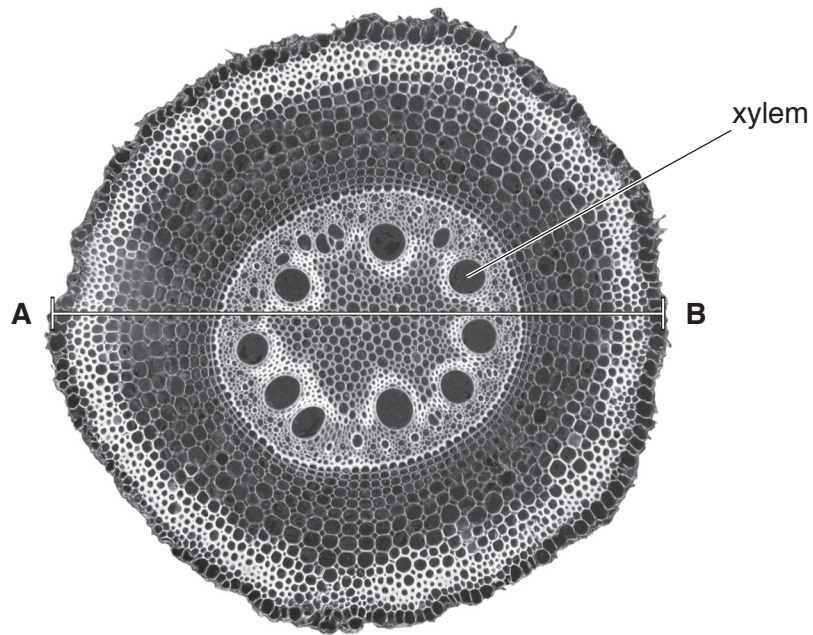
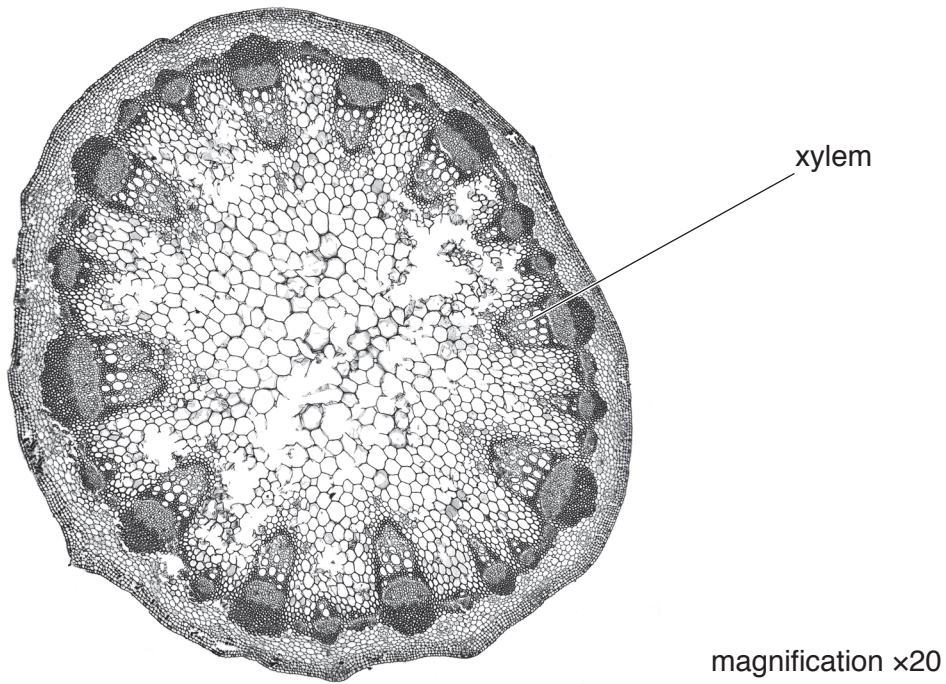

Fig. 2.2
Fig. 2.3
(c) Fig. 2.2 is a photomicrograph of a cross-section of a root.
- (i) Make a large drawing of the cross-section of the root in Fig. 2.2 to show the different areas of the root.
(ii) Measure line **AB** on Fig. 2.2 in millimetres.
The actual diameter of the root shown in Fig. 2.2 is 2mm.
Calculate the magnification of Fig. 2.2 using the equation.
$$\text{magnification} = \frac{\text{length of line AB on Fig. 2.2}}{\text{actual diameter of the root}}$$
(iii) Fig. 2.3 is a photomicrograph of a cross-section of a stem.
State **two** differences between the root in Fig. 2.2 and the stem in Fig. 2.3.